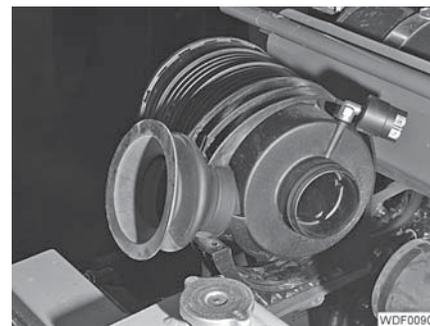

Fig. 88 Air filter holder
- Carefully bend open the retaining clamp (Fig. 88) and remove the air filter housing.